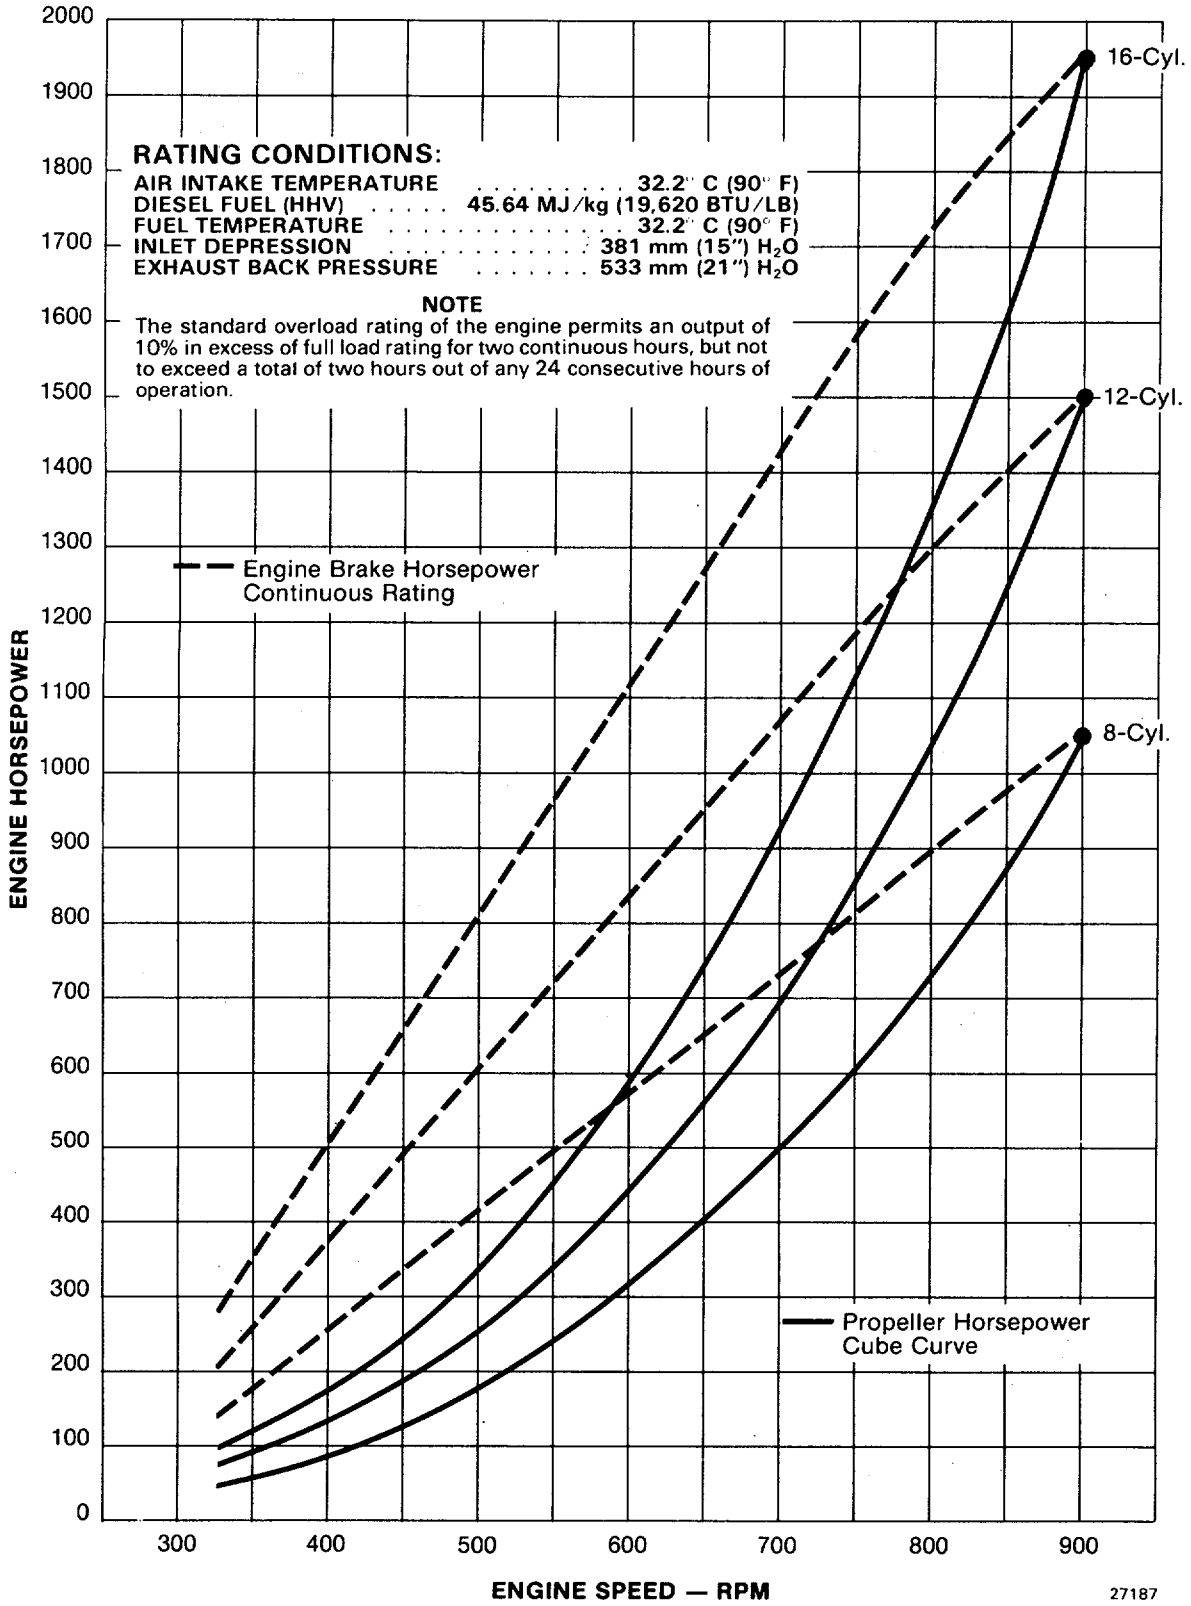

Fig. C-2 - 645E6 Engine HP/RPM Curves
4. Refer to Fig. C-2 for engine brake and propeller horsepower data in relation to engine RPM.